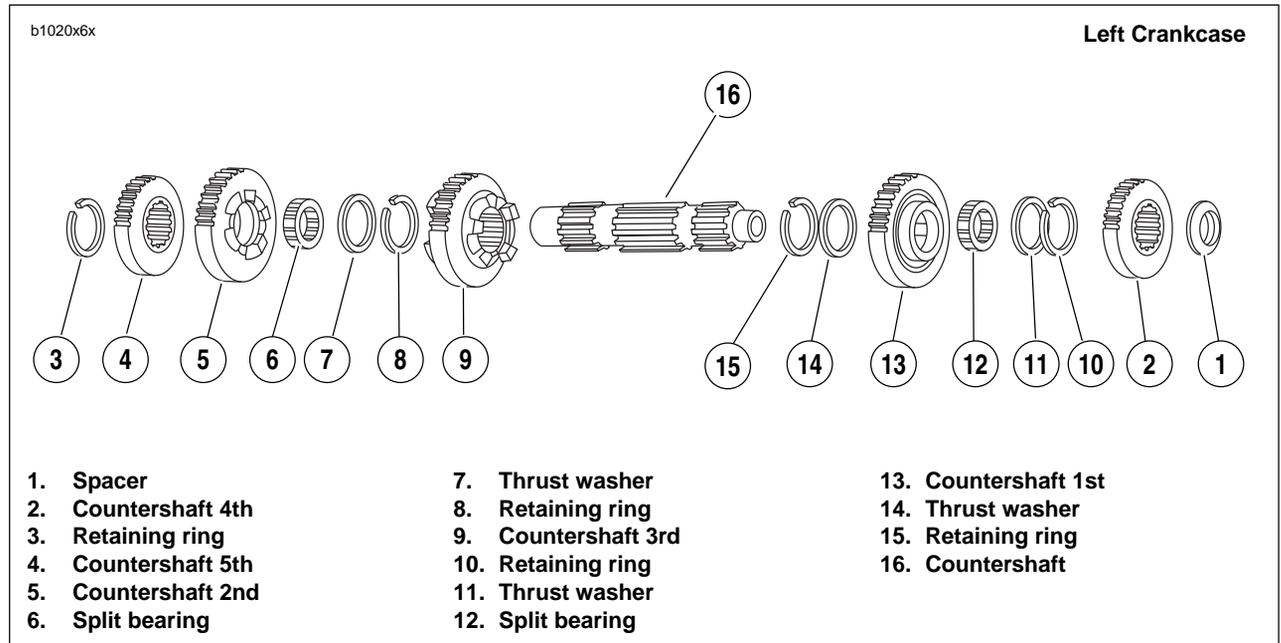

Figure 6-65. Transmission Countershaft Assembly Once Removed from Left Crankcase/Disassembly
1. See Figure 6-65. Remove spacer (1) and countershaft 4th gear (2) from the end of the of the countershaft with internal threads.
2. Using RETAINING RING PLIERS (Part No. J-5586), remove and discard retaining ring (3) next to countershaft 5th gear (4).
- a. Slide countershaft 5th (4), and countershaft 2nd (5) off end of countershaft.
- b. Remove split bearing (6) that was under countershaft 2nd gear (5) and thrust washer (7).
- c. Remove retaining ring (8) on the countershaft and slide countershaft 3rd gear (9) off free end of countershaft.
3. Expand retaining ring (10) located next to countershaft 1st gear (11). Remove retaining ring (10) and thrust washer (11).
- a. Slide countershaft 1st gear (13) off end of shaft.
- b. Remove split bearing (12).
4. Remove thrust washer (14). Expand remaining retaining ring (15) and slide off countershaft.